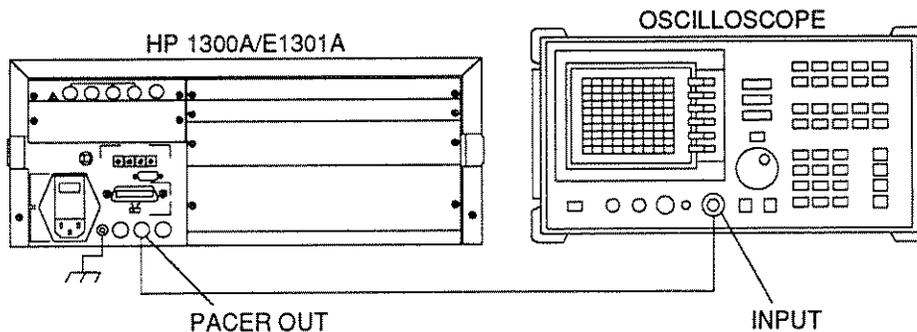

Figure 4-1. Pacer Out Test Equipment Set-up
1. Connect the equipment as shown in Figure 4-1.
1. Verify the equipment is connected as shown in Figure 4-1.